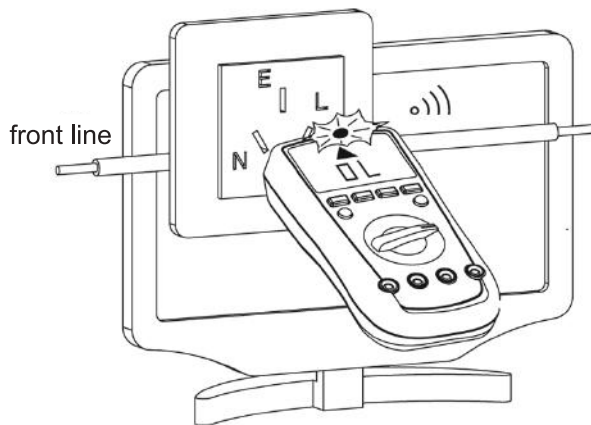

figure 11
J. EF Function (UT61A only) (See figure 11)